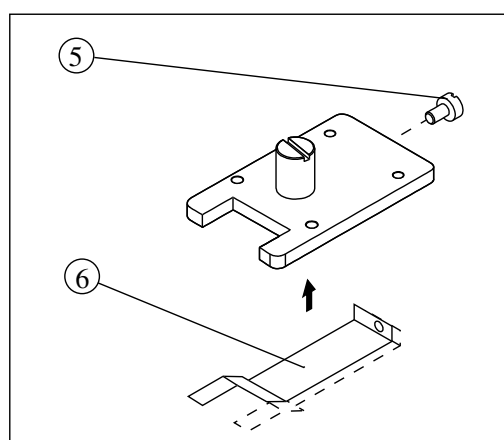

Figure 7.7.: Exchanging the laser submount UP and DN contact (right).
1. disconnect the LLH and open its cover (2), as shown in figure 7.7
1. remove the screw (5) located at the back of the contact set, as shown in figure 7.7
2. remove the copper contact (6)
4. tighten back the screw (5)